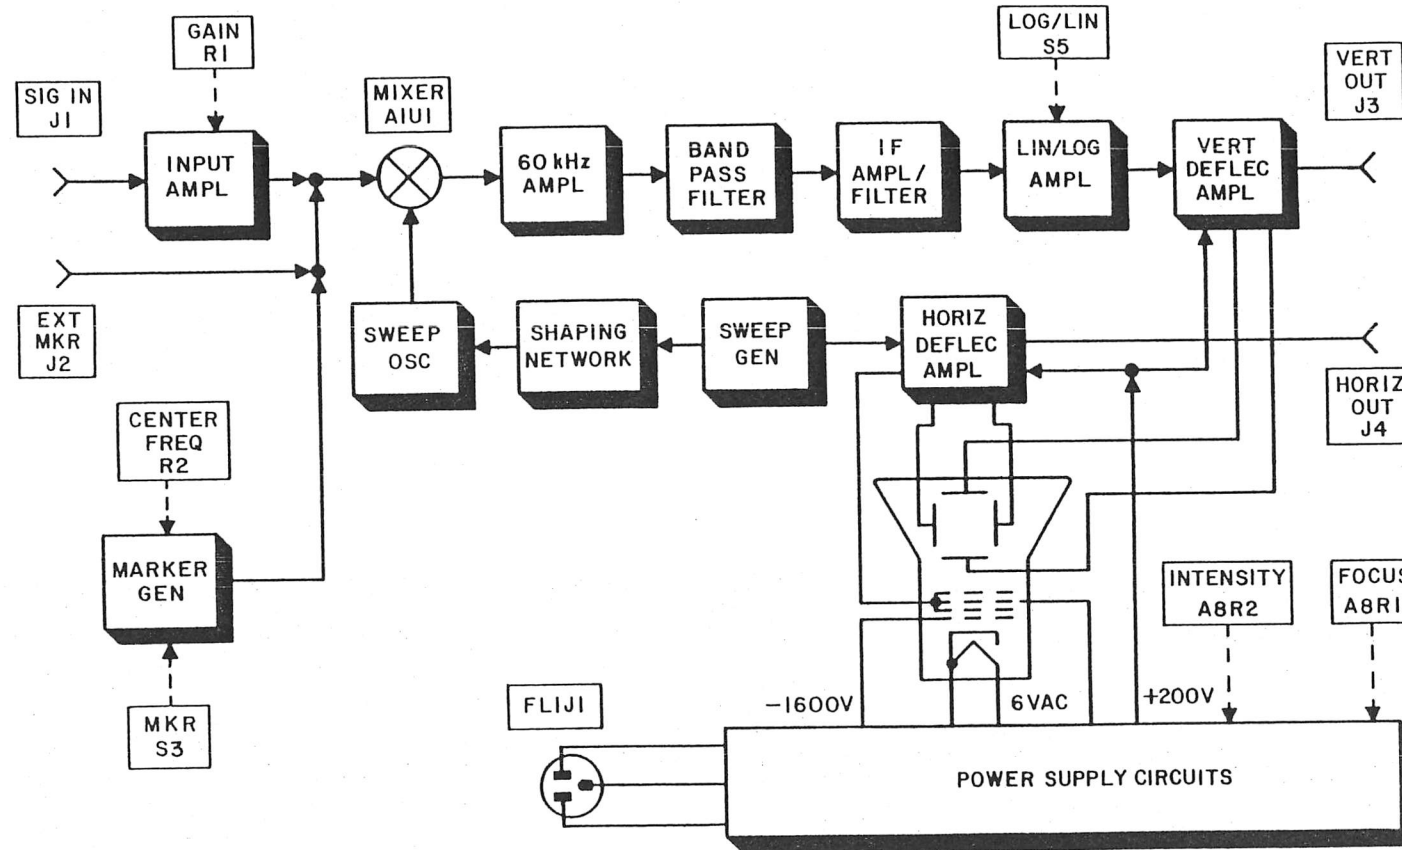

Figure 3-1. WJ-9188A-18 Overall Functional Block Diagram
3.1 GENERAL DESCRIPTION (Figures 3-1, 6-9)
The WJ-9188A-18 Signal Monitor is essentially a 455-to-60 kHz converter with the output frequency displayed on a cathode-ray tube (CRT), in selectable sweep widths of 30 kHz, 15 kHz, or 5 kHz. The relationship of the various signal monitor circuits and associated controls is shown in the functional block diagram, Figure 3-1. A general description of the circuits is given in the following paragraphs.